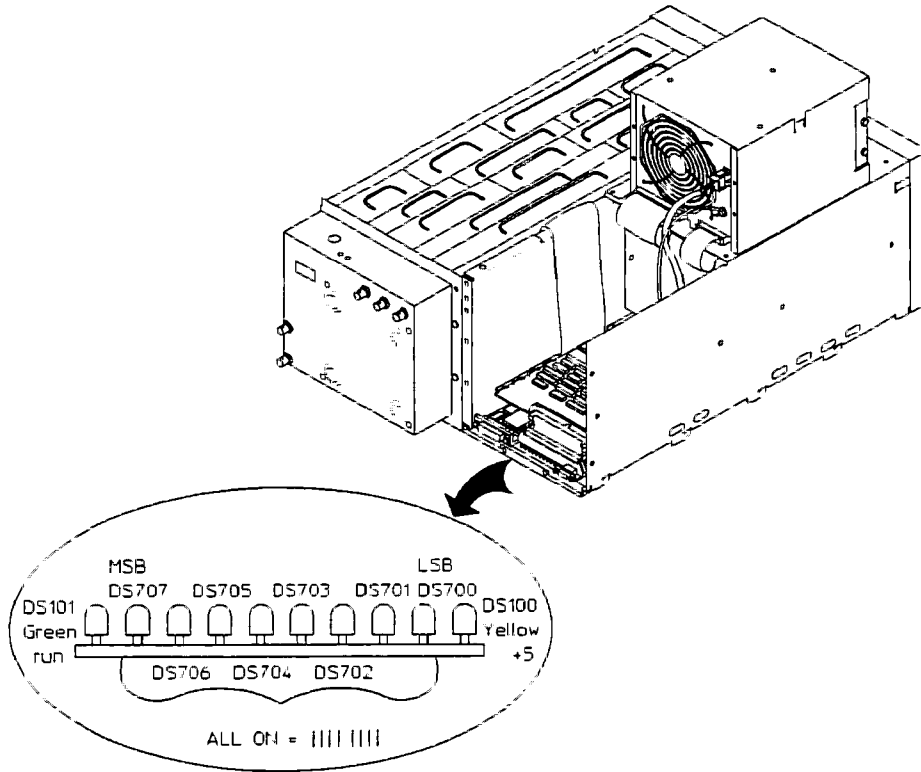

Figure 4-5. Power-on Test LEDs
1. Set the power switch to ON (I). On the CPU assembly, press SW101 (reset switch) while watching the power-on test LEDs (see figure 4-5). The power-on test LEDs pass sequence occurs if the LEDs respond as follows:
3. Set the power switch to ON (I). On the CPU assembly, press SW101 (reset switch) while monitoring the power-on test LEDs (see figure 4-5). The LEDs display codes hexadecimal FF (1111 1111), briefly hexadecimal 14 (0001 0100), then hexadecimal 01 (0000 0001). If the LEDs do not respond correctly, the CPU assembly is faulty.
5. Set the power switch to ON (I). Press SW101 while monitoring the power-on test LEDs. The LEDs pass sequence should occur with the final code hexadecimal A1 (1010 0001) remaining on the LEDs.
8. Set the power switch to ON (I). Press SW101 while monitoring the power-on test LEDs and display. The LEDs pass sequence should occur with the final code hexadecimal A1 (1010 0001) remaining on the LEDs. The screen should display the message Booting System.
11. Set the power switch to ON (I). Press SW101 while monitoring the power-on test LEDs and the display. The LEDs pass sequence should occur with the final code hexadecimal A1 (1010 0001) remaining on the LEDs. The screen should display the message Booting System.